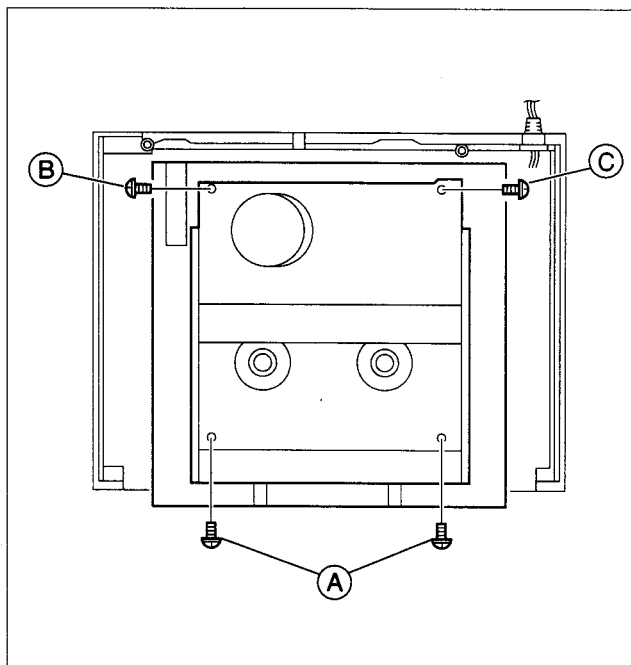

Fig. 1-4-1
- (1) Remove the Top cover, Bracket and Front panel assembly, and remove the Mini ope board assembly for HR-J670EK/J670EU. (See 1.3 DISASSEMBLY/ASSEMBLY METHOD.)
- (2) Lower the cassette holder, and make the preparations required in order to remove the screws from the Mechanism assembly. (Refer to the "Procedures for Lowering the Cassette holder assembly" on pages 1-3 of 1.3 DISASSEMBLY/ASSEMBLY METHOD.)
- (3) Take out 2 screws (A), 1 screw (B) and 1 screw (C) as shown in Fig. 1-4-1.